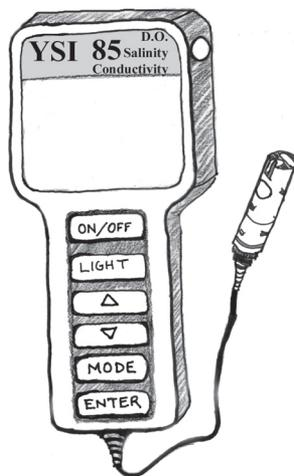

Figure 3-23: YSI 85 Meter
- 1 YSI Model 85 DO, Conductivity, Salinity, & Temperature Meter (Figure 3-23).
1. Press and release the **ON/OFF** button to turn the meter on (Figure 3-23).
3. Dip the probe into the sample container be sure that the large oval opening on the probe is completely submerged in the water sample or waterbody (Figure 3-23).